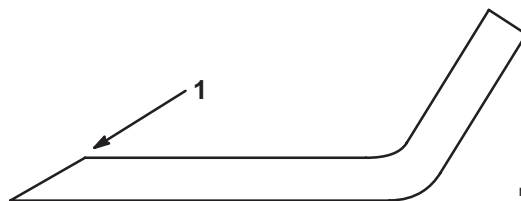

Figure 26
1. Use a file to sharpen the cutting edge at both ends of the blade (Fig. 26). Maintain the original angle. The blade retains its balance if the same amount of material is removed from both cutting edges.